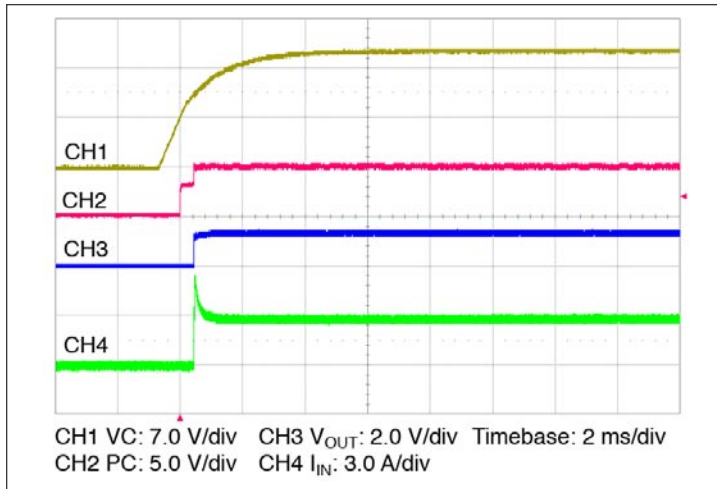

Figure 11 — Start up from application of VC;
- Stand-alone operation (VC applied after V_{IN}): In this case the VTM module output will begin to rise upon the application of the VC voltage (See Figure 11). The Adaptive Soft Start Circuit (See Section 11) may vary the output rate of rise in order to limit the inrush current to its maximum level. When starting into high capacitance, or a short, the output current will be limited for a maximum of 120 µ/sec. After this period, the Adaptive Soft Start Circuit will time out and the VTM module may shut down. No restart will be attempted until VC is re-applied or PC is toggled. The maximum output capacitance is limited to 64400 µF in this mode of operation to ensure a successful start.